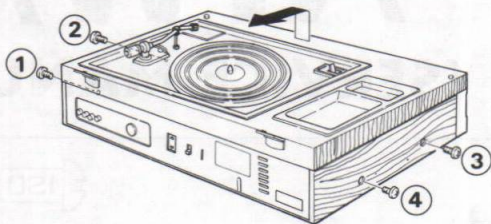

Fig. 1
- 1) Remove 4 screws, (1) through (4). (Refer to Fig. 1).